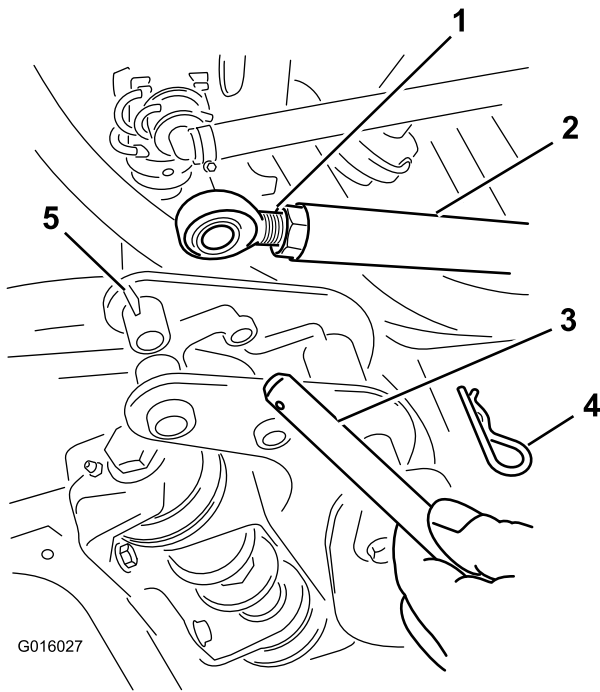

Figure 4
2. For each boom, remove the hairpin cotter and pull out the pin from the rod to disconnect the rod from the boom pivot pin housing (Figure 4).